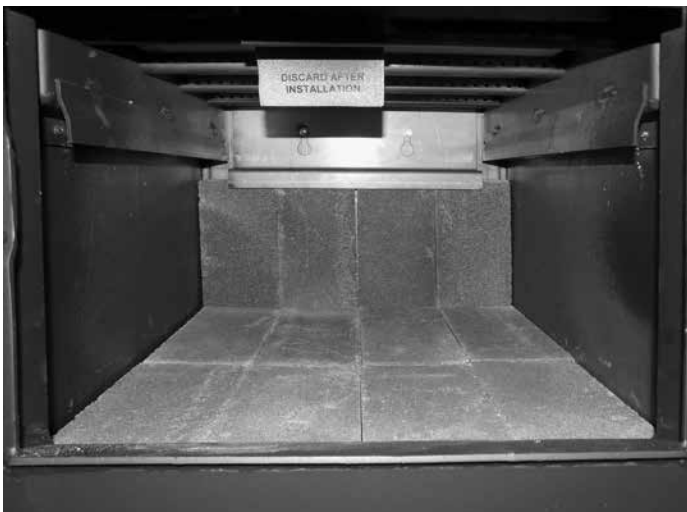

Figure 21: Floor bricks laying lengthwise.
3. Place the floor bricks as shown in Figure 21.